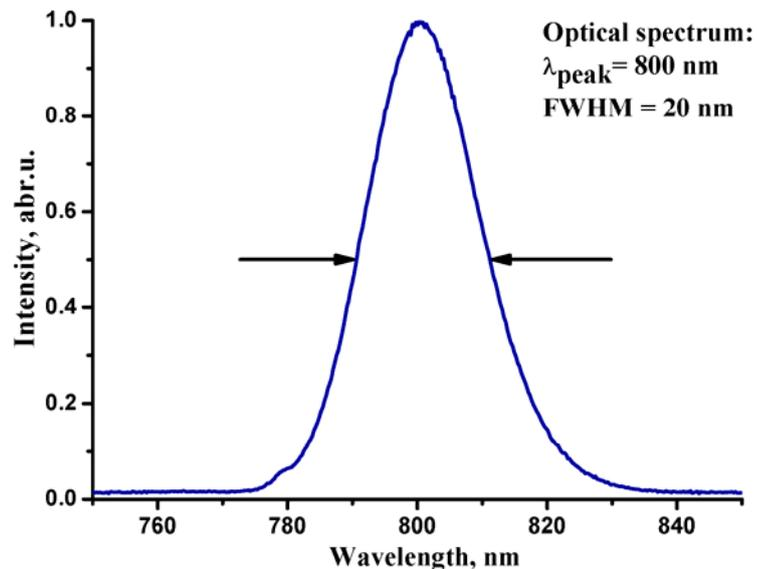

Fig. 16 Spectrum
72. Measure the spectrum of Ti:Sapphire laser radiation with the help of a spectrometer or a diffractive grating. The typical spectrum is given in the *Fig. 16*